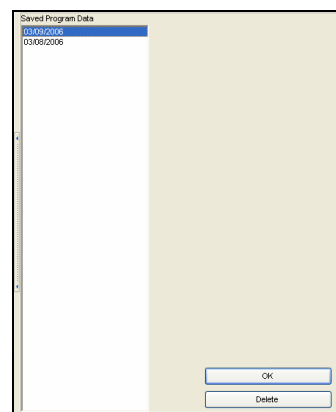

Figure 16.1.4C
3. Select the most recent date in the “**Saved Program Data**” window by clicking on it (Figure 16.1.4C).